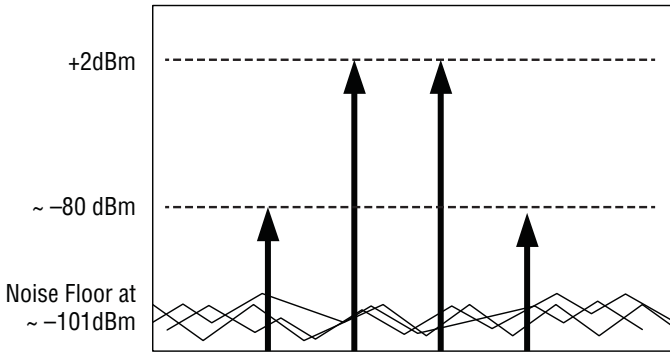

Figure 5. Not Enough Input Attenuation
- f. Optimize the dynamic range of the spectrum analyzer by adjusting input attenuation. First increase the spectrum analyzer input attenuation (normally in steps of 10dB). If the IMD product levels decrease when the input attenuation is increased, then, the input power level is too high for the spectrum analyzer to make a valid measurement. Figure 5 is depicted the signal overloaded. (i.e. these also mean that you are overloading the spectrum analyzer and it is producing its own IMD products).